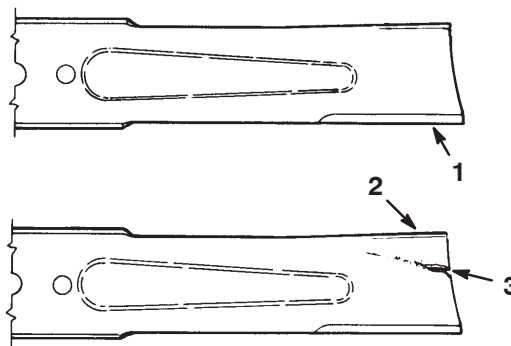

Figure 33
2. Inspect the cutting edges (Fig. 33). If the edges are not sharp or have nicks, remove the blades and sharpen them; refer to Sharpening the Blades on page 29.
3. Inspect the blades, especially the curved area (Fig. 33). If you notice any damage, wear, or a slot forming in this area (Fig. 33), immediately install a new blade.